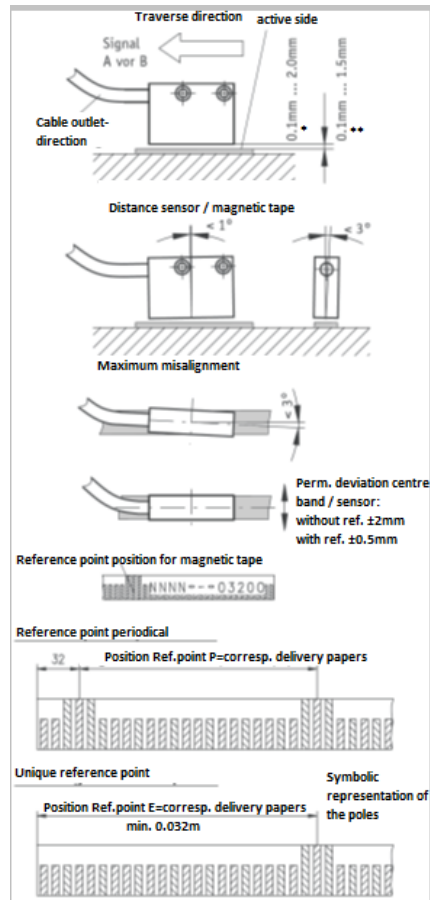

Fig. 6: Definition of counting direction / mounting / tolerances
- Ensure correct alignment about the counting direction (Fig. 6). This is irrelevant if the counting direction can be reversed in the electronic evaluation.
- Observe the distance dimensions between sensor and magnetic tape as well as the angle tolerances, these must be maintained over the entire measuring distance! (Fig. 6)
- The distance tolerance between the sensor and the magnetic tape was not maintained over the entire measuring distance, the sensor grazes on the magnetic tape (Fig. 6).
- The sensor is mounted with the active side facing away from the belt (Fig. 6). The active side is additionally marked with the sticker "belt side".
- The sensor has not been adjusted according to Fig. 6.